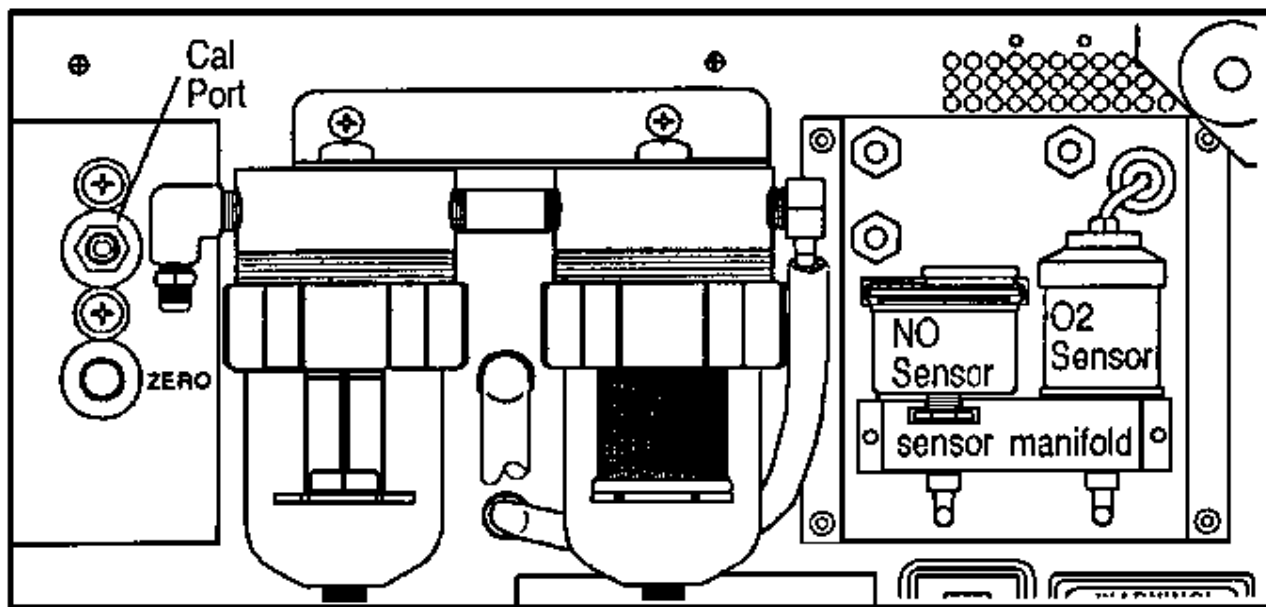

Figure 1
**NOTE: FOR THE FOLLOWING INSTALLATION INSTRUCTIONS PLEASE REFER TO FIGURE 1.**